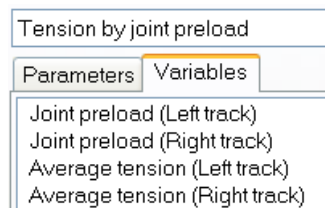

Fig. 45 List of standard variables of the test
3) Open a new graphic window and drag two variables from the list by the mouse into the window: preload and tension, Fig. 45.